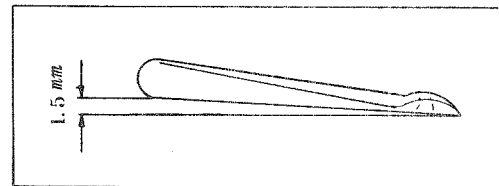

Fig. 18
- b) The chain looper must be installed so that the top end deflects 1.5 mm (1/16") from its clamped end as shown in Fig. 18. The deflection may be changed when the correct looper clearance at the needle is not provided due to the difference in the needle size. The looper clearance at the needle will be decreased by increasing the said looper deflection, and vice versa. Do not allow the chain looper to touch the differential feed dog.